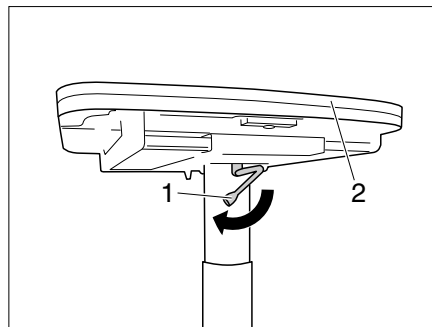

Fig. 107 Lowering the table
- Swivel the catch lever (Fig. 107,1) to the left. The lock is open.
- Press the table-top (Fig. 107,2) downwards in the middle and keep it pressed.
- Swivel the catch lever (Fig. 107,2) to the right. The lift-off table is locked.